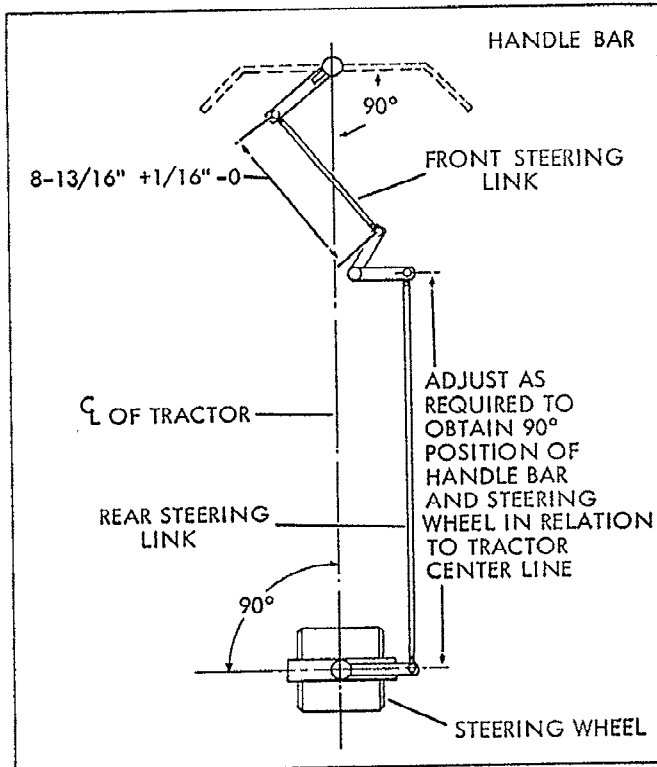

Figure 11.
- A. Measure the length of the rear steering link, this should be 42-1/4" (see Fig. 11). A variation of 3/8" either way is permissible to square the wheel with the handle bar.
This link, located under the floor board, is not to be changed when making a steering adjustment. If it is, for any reason, removed and disassembled the dimension of 8-13/16 to 8-7/8" (see Fig. 11) must be maintained when reassembling.